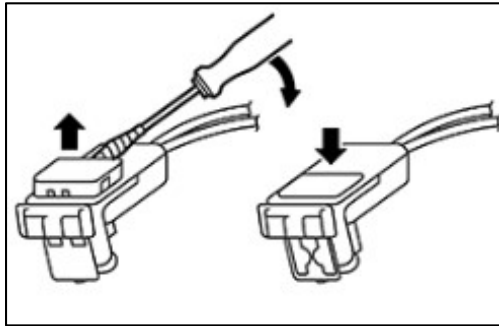

Figure 1
- For installing/removing the driver air bag module harness connector, insert a thin screwdriver wrapped in tape into the notch, lift the lock, and remove the connector (Figure 1).